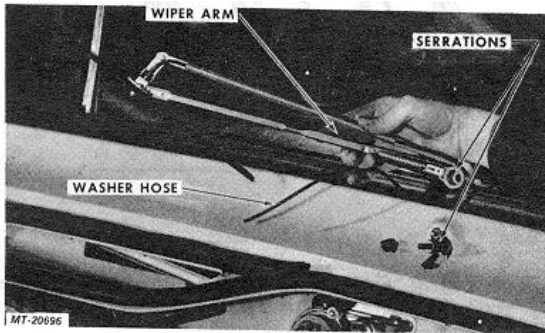

Fig. 30. Removing Windshield Wiper Arms
2. Remove cap nut and detach windshield wiper arms (Fig. 30).